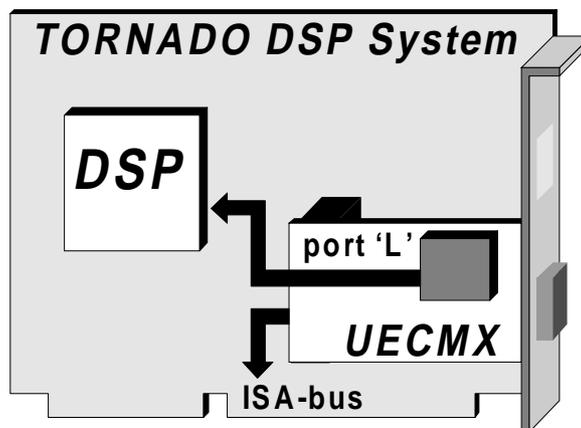
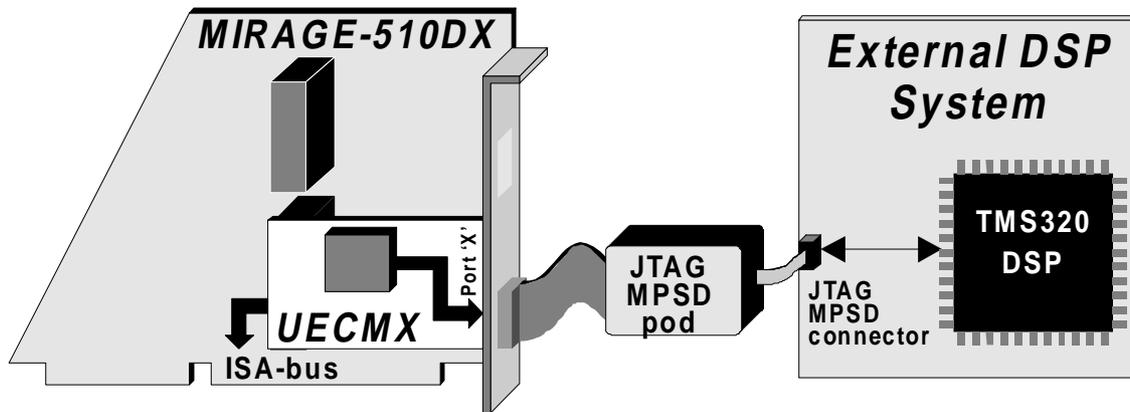
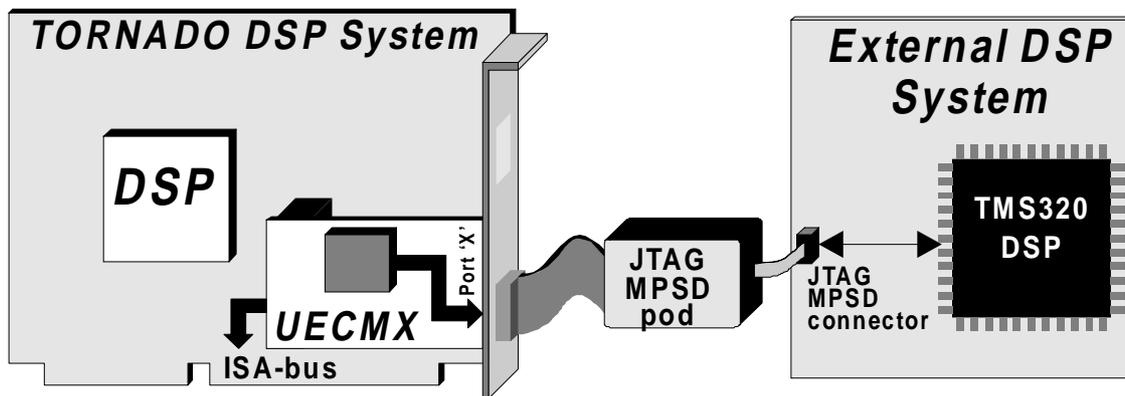

Fig.2-3. Emulation of *TORNADO* on-board DSP via emulation port 'L' of *UECMX*.
Fig.2-4. Emulation of external TMS320 DSP via emulation port 'X' of UECMX in case UECMX is installed onto MIRAGE-510DX mainboard.
Fig.2-5. Emulation of external TMS320 DSP via emulation port 'X' of UECMX in case UECMX is installed onto TORNADO DSP system mainboard.
Emulation port 'L' is used when *UECMX* module is installed onto *TORNADO* DSP system mainboard (see fig.1-2) and is configured for emulation control of *TORNADO* on-board TMS320 DSP (see fig.2-3). Emulation port 'L' of *UECMX* is directly connected to scan-path emulation interface of *TORNADO* on-board TMS320 DSP thus eliminating the need for external emulator with JTAG or MPSD pod.
Emulation port 'X' is used when *UECMX* module is installed either onto *MIRAGE-510DX* emulator mainboard (see fig.1-3 and fig.2-4) or onto *TORNADO* DSP system mainboard (see fig.1-2 and fig.2-5) with the *UECMX* configured for emulation control of external TMS320 DSP. Emulation port 'X' of *UECMX* assumes connection to target TMS320 DSP via optional JTAG or MPSD pod (see the corresponding section below in this chapter for detail information about JTAG and MPSD pods).
When *UECMX* is installed onto *MIRAGE-510DX* emulator mainboard (see fig.1-3 and fig.2-4), it can emulate any external TMS320 DSP via JTAG or MPSD pod using on-board emulation port 'X' only. Emulation port 'L' is not used when *UECMX* is installed onto *MIRAGE-510DX* emulator mainboard.
When *UECMX* is installed onto *MIRAGE-510DX* mainboard (see fig.1-3 and fig.2-4), and *UECMX* is configured to run in the *UECM/MIRAGE-510D* emulation compatibility mode, then host control over activity of *UECMX* on-board emulation controller is available via host utility software *UECMXCC.EXE*, which is included with *UECMX*.
When installed onto *TORNADO* mainboard (see fig.1-2), *UECMX* can emulate either *TORNADO* on-board TMS320 DSP without pod (see fig.2-3) or any external TI TMS320 DSP via optional MPSD or JTAG pod (see fig.2-5).
When *UECMX* is installed onto *TORNADO* mainboard (see fig.1-2) and is configured to connect to *TORNADO* on-board TMS320 DSP via *UECMX* on-board emulation port 'L' (see fig.2-3), then *TORNADO* on-board emulation multiplexer connects emulation port 'L' of *UECMX* module to scan-path interface of target *TORNADO* on-board TMS320 DSP, thus eliminating the need for external emulator with JTAG or MPSD pod.
When *UECMX* is installed onto *TORNADO* mainboard (see fig.1-2 and fig.2-3) and is configured to connect to *TORNADO* on-board TMS320 DSP, then 10 MHz default JTAG clocking frequency is used.
When *UECMX* is installed onto *TORNADO* DSP system mainboard (see fig.1-2) and is configured to emulate external TMS320 DSP (see fig.2-5), then this can be performed via optional MPSD or JTAG pod that should be connected to the emulation port 'X' of *UECMX* on one side and to target DSP on the other side. This is similar to that when *UECMX* is installed onto *MIRAGE-510DX* mainboard.
- *UECMX* is installed onto *TORNADO* DSP system mainboard (see fig.1-2 and fig.2-5) and is configured to emulate external DSP
- *UECMX* is installed onto *MIRAGE-510DX* mainboard (see fig.1-3 and fig.2-4).
MPSD pod is used when *UECMX* is either *UECMX* is installed onto *MIRAGE-510DX* mainboard (see fig.1-3 and fig.2-4) or when *UECMX* is installed onto *TORNADO* DSP system mainboard (see fig.1-2 and fig.2-5) and is configured to emulate external DSP.
JTAG pod is used when *UECMX* is either *UECMX* is installed onto *MIRAGE-510DX* mainboard (see fig.1-3 and fig.2-4) or when *UECMX* is installed onto *TORNADO* DSP system mainboard (see fig.1-2 and fig.2-5) and is configured to emulate external DSP.